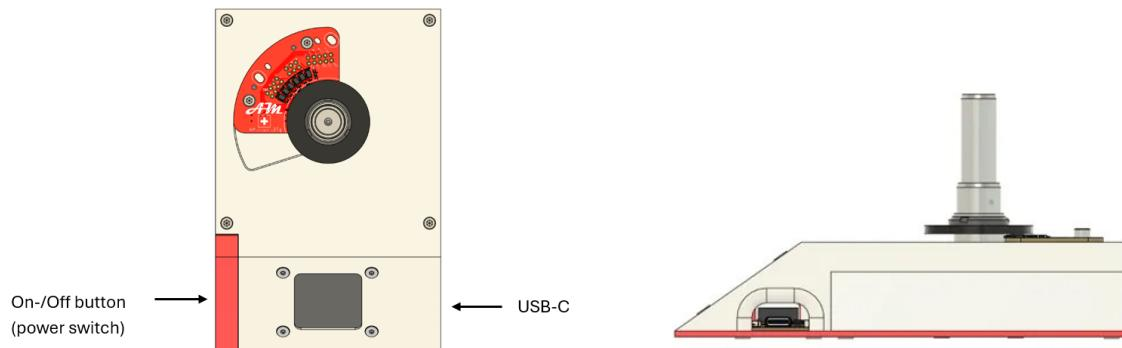

Figure 7: Top view for USB-C Port and On-/Off switch (power switch)
- 5) Connect the USB-C cable to the USB-C port on the Evaluation Kit (figure 7) and power it with a standard phone charger (5V) or a laptop.